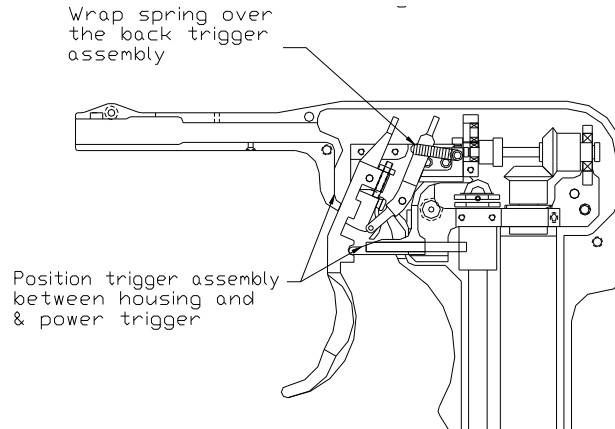

Figure 5.
- g. Slide the back trigger assembly and trigger assembly over the dowel pins of the carrier. Wrap the back trigger spring over the back trigger assembly (see Figure 5).